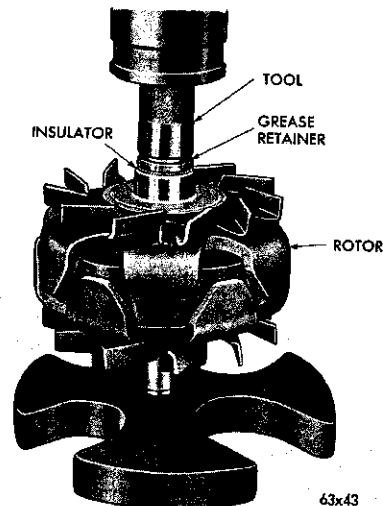

Fig. 31—Installing the Bearing Grease Retainer
(15) Position the new grease retainer insulator and grease retainer on the rotor shaft and press the retainer on the shaft with installer Tool C-3921 (Fig. 31). The retainer is properly positioned when the inner bore of the installed tool bottoms on the rotor shaft.